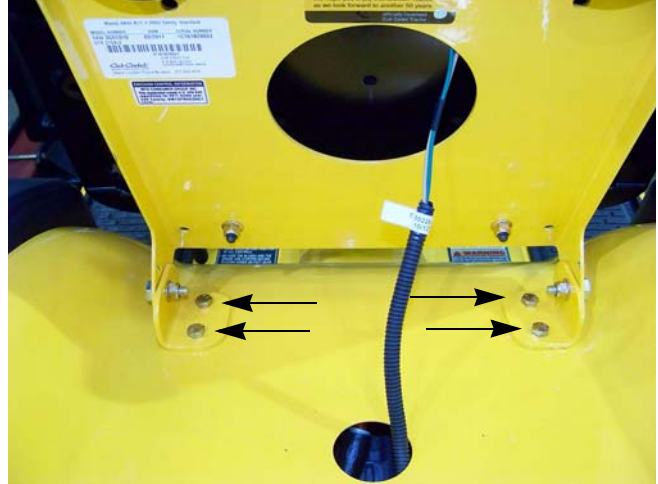

Figure 4.17
- Remove the four screws, indicated by the arrows in Figure 4.17, that hold the seat frame to the fender using a 7/16" wrench.